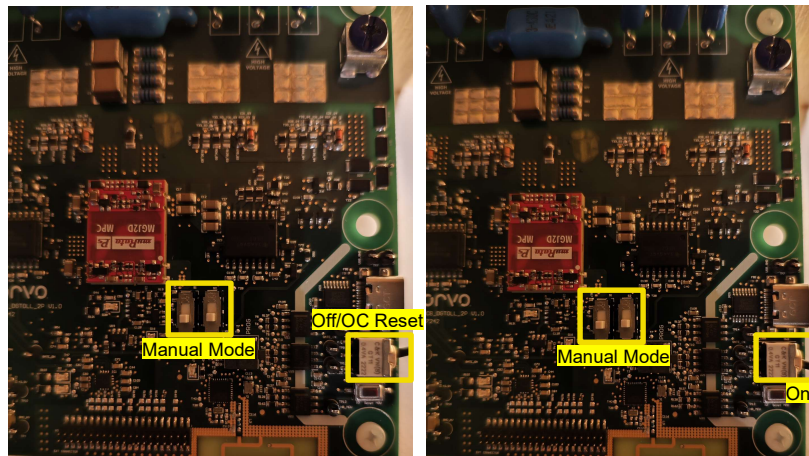

Figure 14 Manual/MCU mode (S1 and S2), ON/OFF Switch
1. For manual control mode, S1 and S2 need to be switched to the position towards MCU/Antenna side, see Figure 14
4. On/Off control: switch SW2 to turn the power switch on (towards antenna) or off (towards USB port), see Figure 14.